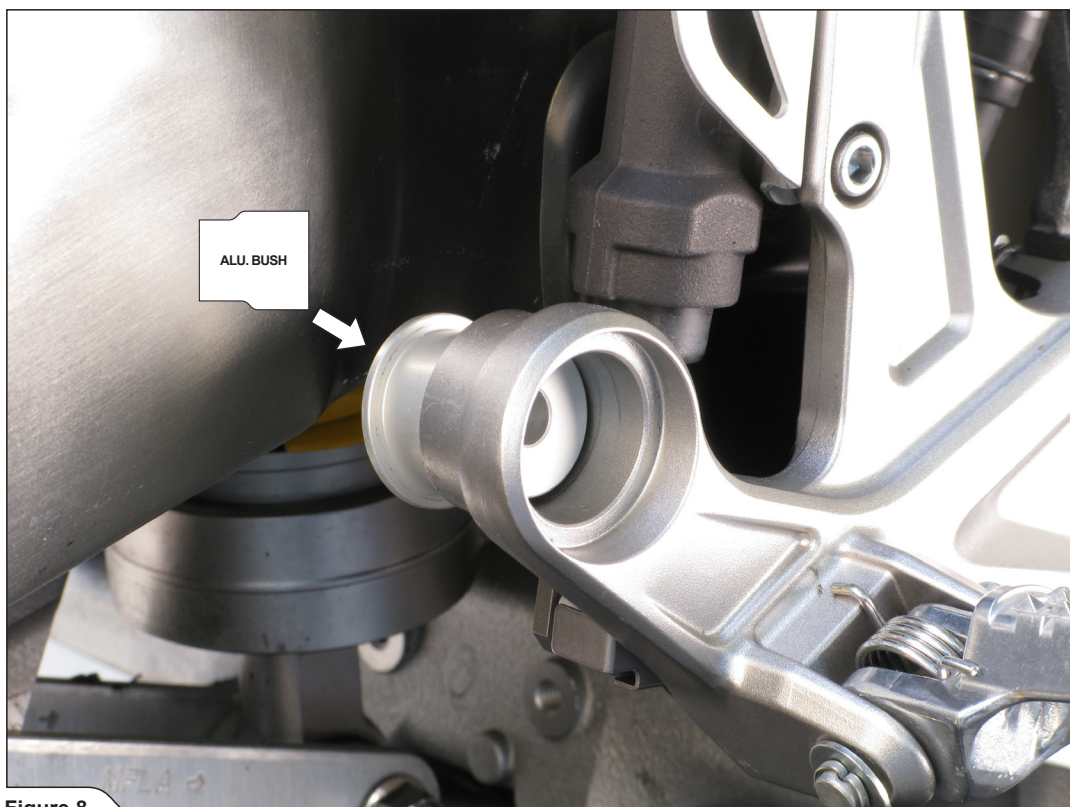

Figure 8
2. Insert the aluminium bush from Akrapovič installation kit into the muffler's bracket (Figure 8).